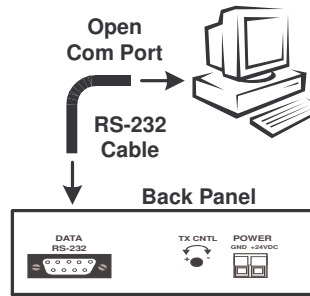

Figure 4 Connecting computer to the Activator
- 3:** Attach the other end of the RS-232 cable to an open com port on the computer (Figure 4).